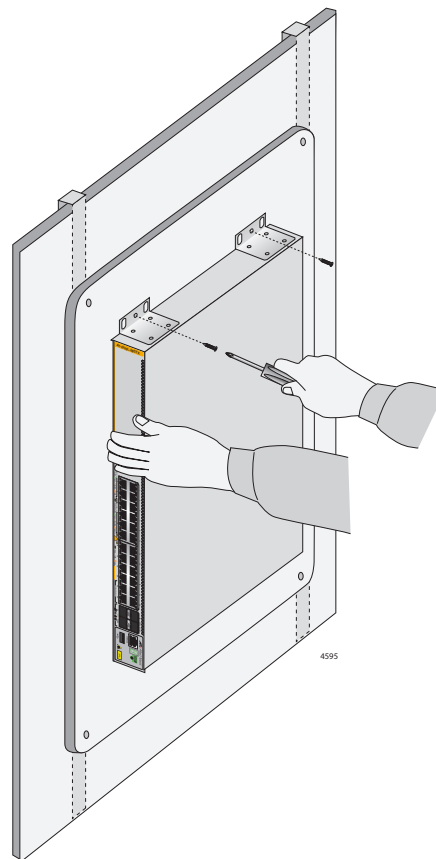
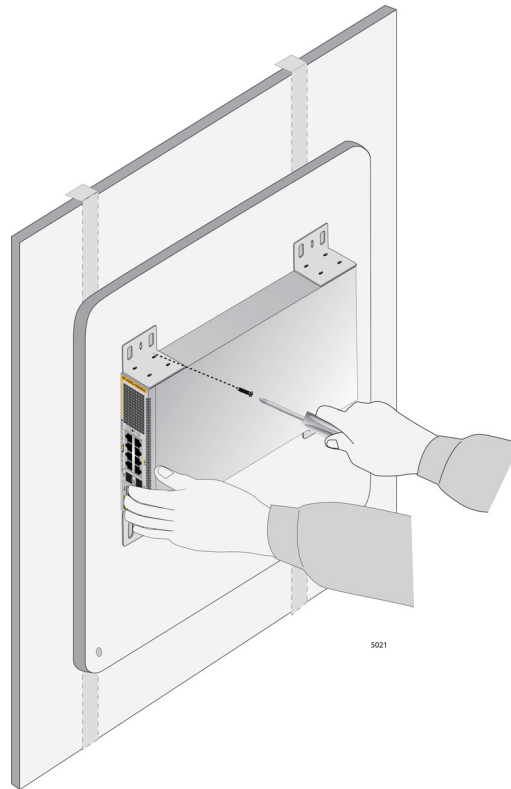

Figure 76. Securing the x530L-28GPX, x530L-28GTX, x530L-52GPX, or x530L-52GTX or x530L-52GTX Switch to the Plywood Base
Figure 77. Securing the x530L-10GHXm Switch to the Plywood Base
3. After attaching the brackets, have another person hold the switch on the plywood base on the wall while you secure it with the M4x32.3mm screws included with the switch. Refer to Figure 76 for the x530L-28GPX, x530L-28GTX, x530L-52GPX, or x530L-52GTX switch or Figure 77 on page 136 for the x530L-10GHXm switch.
- ❑ Position the switch so that the front panel is facing up, left or right. Refer to Figure 76. Do not install it with the front panel facing down.
- ❑ Position the switch so that the front panel is facing up, left or right. Refer to Figure 77 on page 136. Do not install the switch with the front panel facing down.